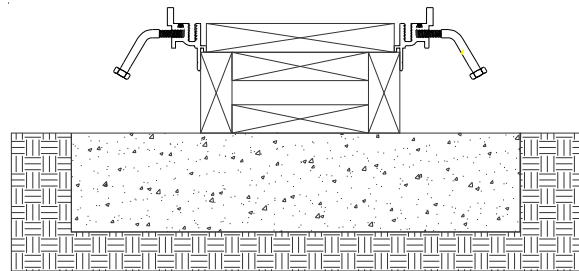

Figure 4
STEP 6. Remove the cover plate from the frame (see Figure 4).